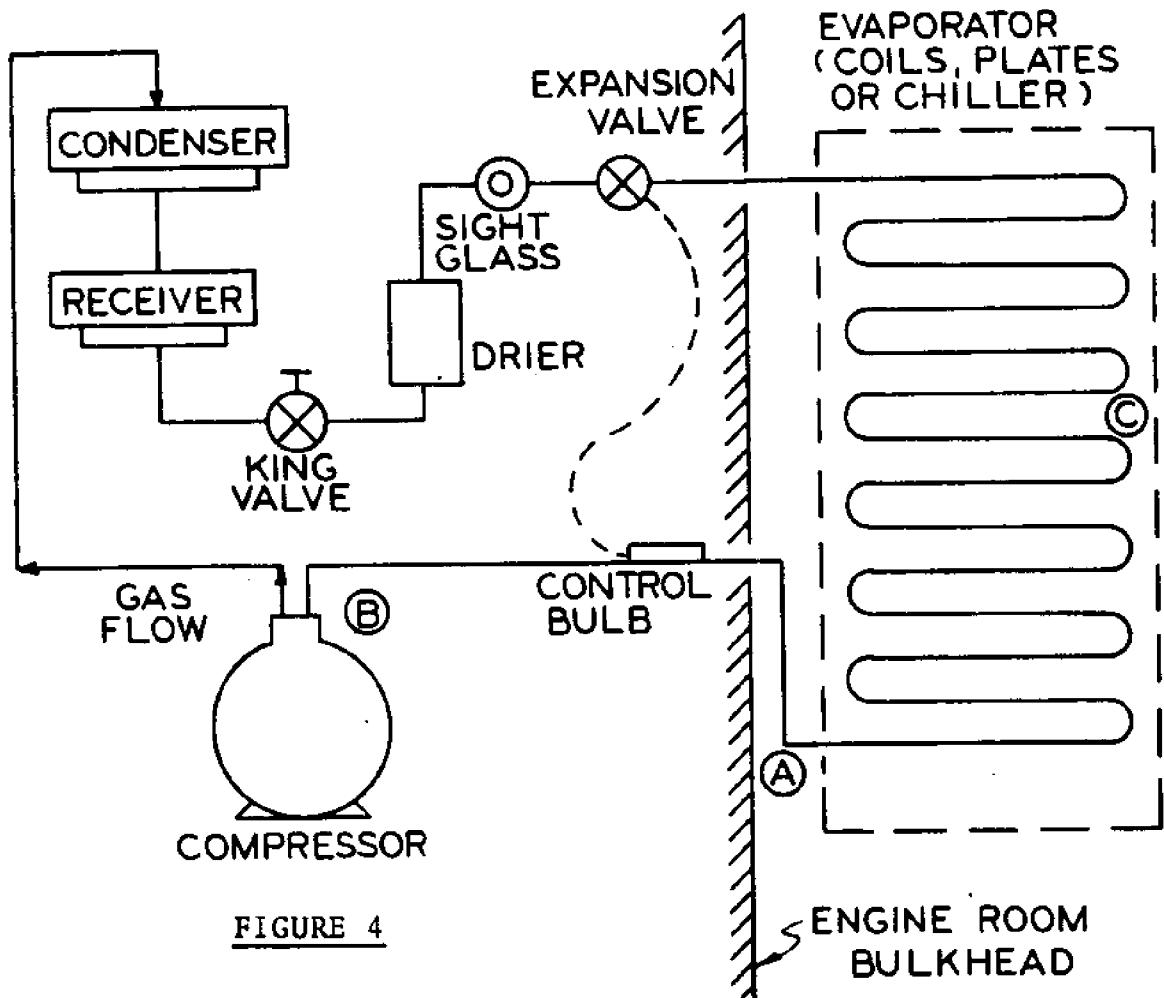

FIGURE 4
A basic refrigeration system appears in Figure 4. High pressure refrigerant gas coming from the compressor condenses into liquid in the condenser and collects in the receiver. At the expansion valve, the high pressure liquid changes into a low pressure liquid which evaporates as it flows through the
Try to avoid collecting points where oil can accumulate in the piping circuit. One common collecting point might be somewhere in the middle of the evaporator coils. If, for example, an expansion valve were undersized, or if a drier were partially clogged, or if you were short of refrigerant, chances are that the refrigerant liquid would be completely boiled away before it reached the end of the coil (point "C" of Figure 4, instead of near the control bulb). The result for relatively large diameter coils is that it is very difficult for the oil to be forced out past point (A) and back into the compressor (B). For similar reasons, it is generally recommended that for coil banks, series piping should be used instead of parallel runs, which have lower gas velocities and sometimes "dry" sections which collect oil. The oil may accumulate in the coils to the extent that evaporator temperatures are thrown way off. Another possibility is that the compressor could be robbed of adequate lubrication, resulting in failure.